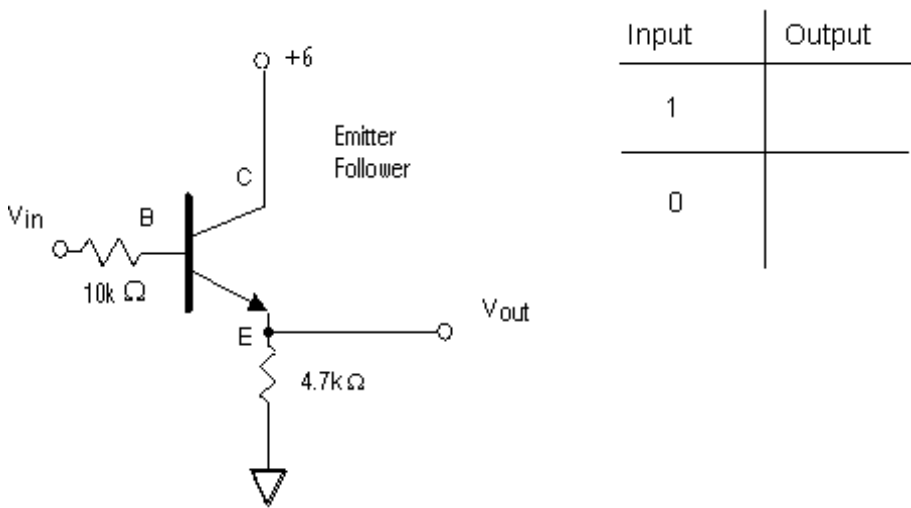

Figure 2. Emitter follower circuit
1. Configure the "Emitter Follower" circuit shown in Figure 2 using one of the transistors supplied. Use a +6V supply to the collector of the transistor. Is the output high or low when the input is 6 volts (high, a logical 1)? What is it when the input is 0 volts (low, a logical 0)? Reproduce the input/output table shown in your notebook and fill in the experimentally determined values of voltage measured when the output is 1 or 0. A circuit that performs a logic function like this is called a "gate". The input/output table you just produced is called a "truth table". Its purpose is to show the output under all possible input conditions. Here you have only one input, which can have only two states (HIGH or LOW, 1 or 0). **Q3:** If you had two inputs, how many rows would you need for your table? Three inputs? N inputs? **Q4:** Why is the "pull down" resistor needed between the emitter and ground? (Hint: Use the equivalent circuit models - the 'On' and 'Off' circuits above - to try to understand the answer. Is it possible to determine what V_{out} would be when the transistor is off if there were nothing connected to the emitter terminal? What would happen if we were to replace the resistor with a length of wire to accomplish pull-down?) The value of the resistor is chosen to limit the amount of current that flows from the power supply, through the collector-emitter terminals, and then to ground when the transistor is on.